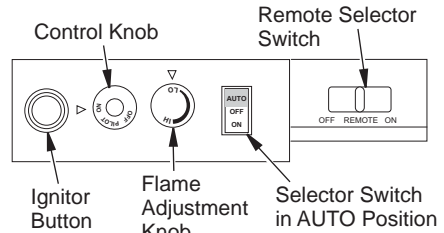

Figure 19 - Control Knob and Ignitor Button Locations for Remote Control
1. After lighting, let pilot flame burn for about one minute. Turn control knob to ON position. Adjust flame adjustment knob anywhere between HI and LO. Set toggle selector switch to AUTO. Slide remote selector switch to REMOTE position (see Figure 19). *Note: The burner may light if hand-held remote was on when selector switch was last turned off. You can now turn burner on and off with hand-held remote control unit.*